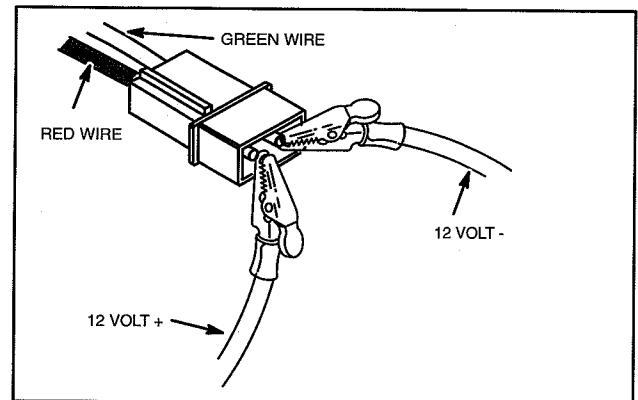

Fig. 34 – Static Check
2. Attach jumper wires from battery to RED and GREEN wires to actuator, Fig. 34.